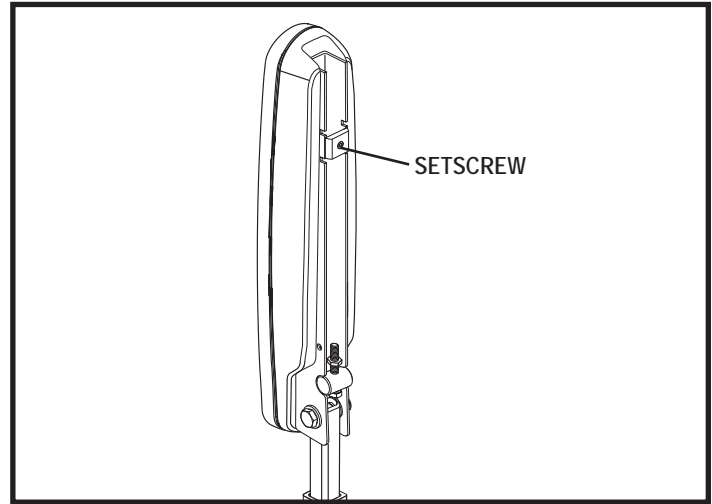

Figure 10. Underside of Armrest
2. Loosen the setscrew on the controller bracket. **See figure 10.**
5. Loosen the setscrew on the underside of each armrest. **See figure 10.**